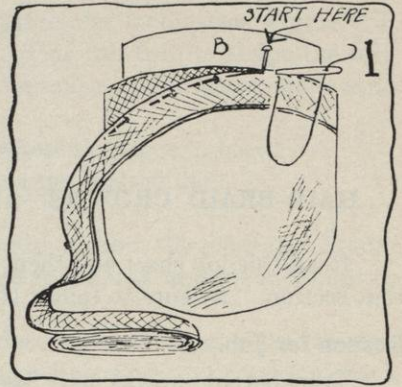

FIG. 1.
- c. At the left side back point, where you put the pin, start to pin the finished edge of the hair braid through the maline, either $\frac{1}{4}$ inch below the bottom of the block (see Figure 1, page 262) or $\frac{1}{4}$ inch below the pins set horizontally in the maline (see Section 2c above).
- d. Work toward the left, and pin the finished edge, so that it extends about $\frac{1}{4}$ inch below the bottom of the block (see Figure 1), if the full height of the crown block is desired, or $\frac{1}{4}$ inch below the pins, put in as in Section 2 c, page 261, if the full height is not desired.
- f. Baste this first row through the maline (see Figure 1).
- a. Run the finished edge of the second row up on the first row very gradually (see Figure 1) until it just overlaps the corded edge of the first row, and put a pin in it. This must be done very gradually, for the appearance of the entire crown depends on it.